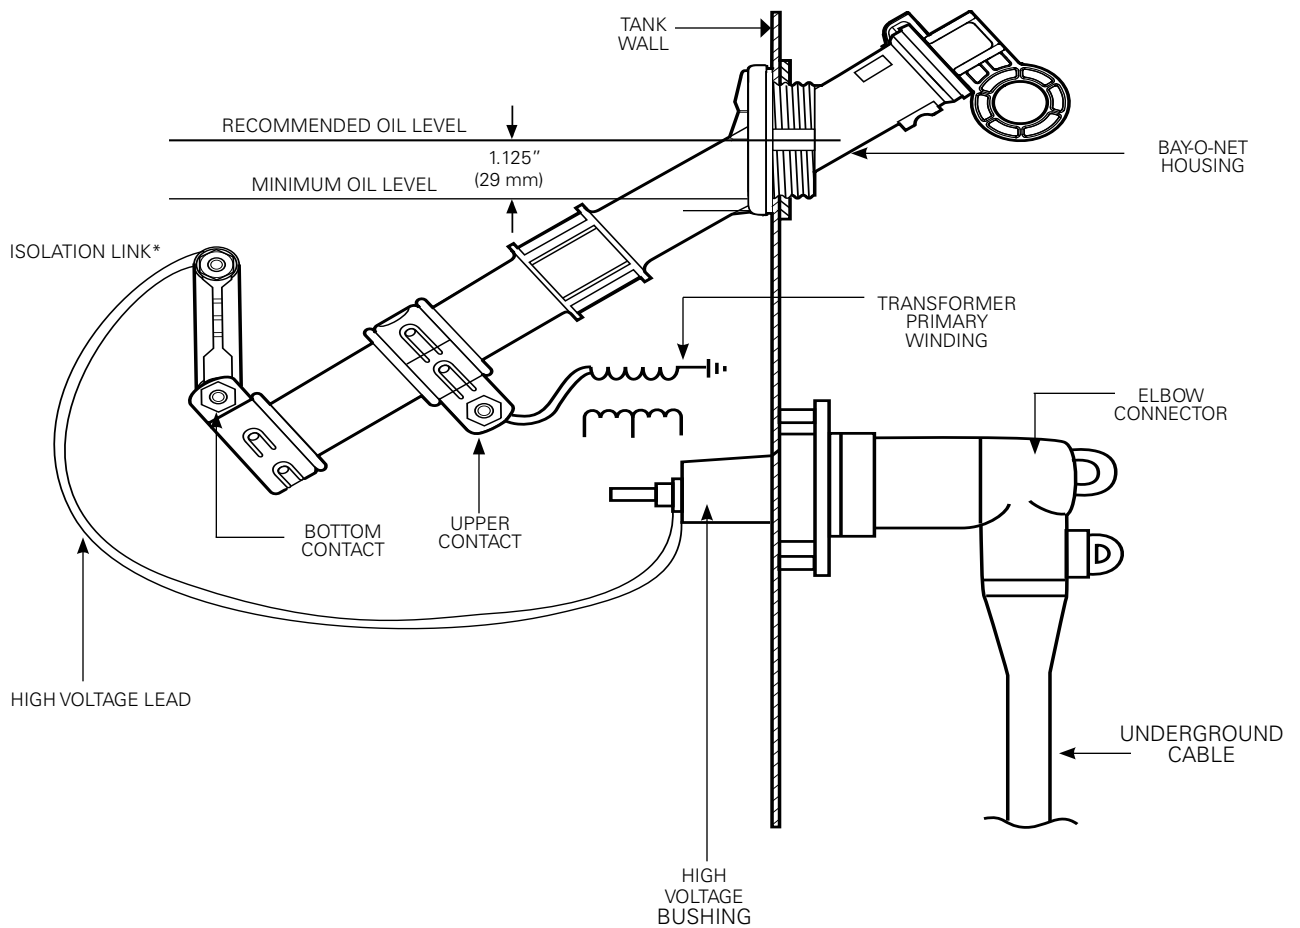

Figure 6. Line illustration of Bay-O-Net assembly with isolation link.**
- Connect voltage source to bottom contact of the Bay-O-Net Assembly through isolation link or energy limiting fuse, as shown in Figure 6, with 1/4" x 20 stud on the isolation link. Recommended Bay-O-Net fuse and isolation link combinations are listed in Table 4. Connect upper contact of the Bay-O-Net Assembly to the transformer coil.